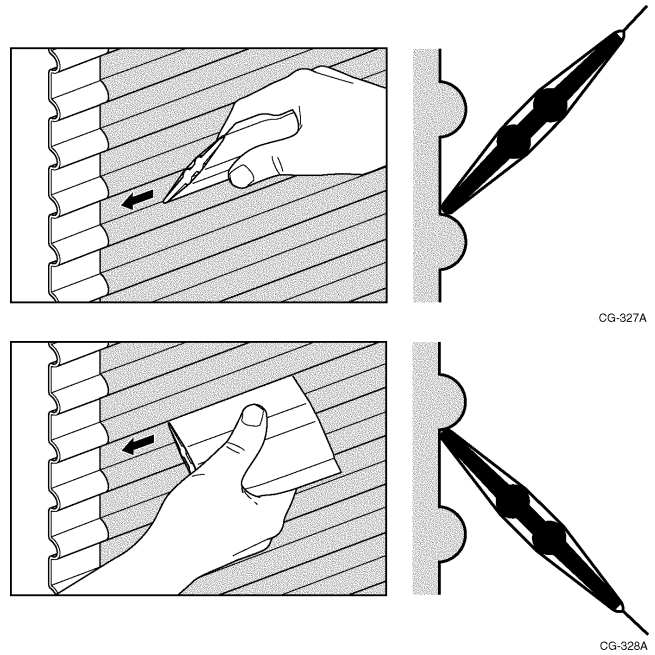

Figure 20 Re-bead Upper and Lower Valleys
3. Re-bead the upper and lower valley of each corrugation at the film overlaps. Use firm pressure with the plastic applicator. Failure to do this step will result in lifting of the top film layer. See Figure 20.